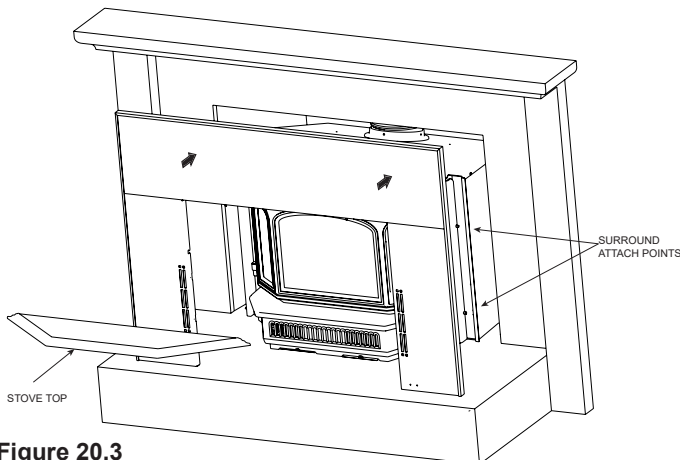

Figure 20.3
6. Install the surround set and trim set to the outer can. Place the hook in the surround sides over the surround attachment screws, 2 on each side (**Figure 20.3**).